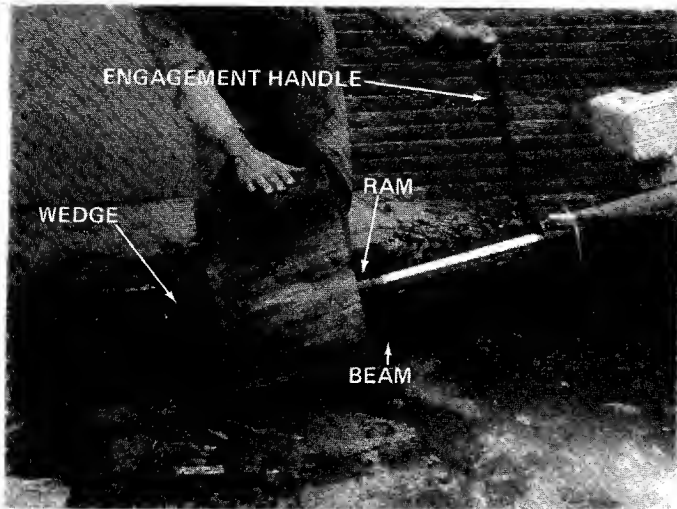

FIGURE 10
2. Place log on beam and hold in place with right hand. See figure 10.